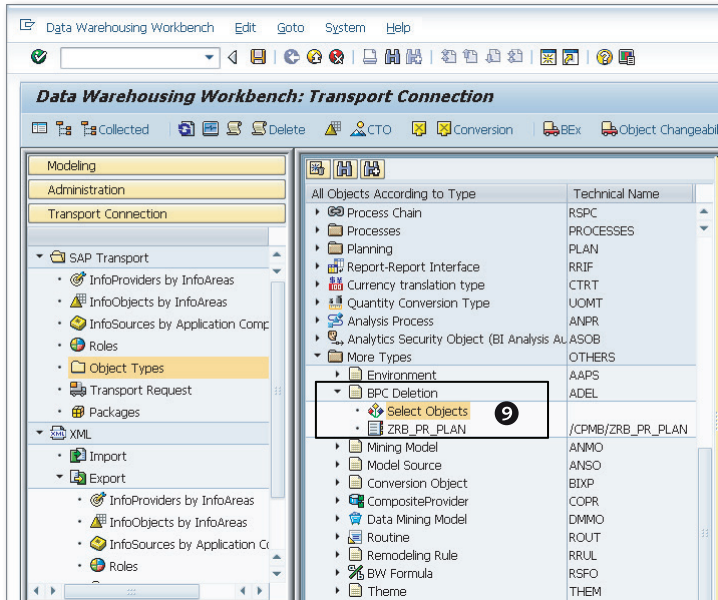

Figure 8.3 Transporting Objects in SAP BPC for NetWeaver—Part C
4. You may sometimes want to delete SAP BPC objects in target systems. Certain types of objects—MODEL, DIMENSION, DATA MANAGER PACKAGE, DATA MANAGER PACKAGE GROUP, and DATA MANAGER PACKAGE LINK—support deletion mode. To create a transport for deletion, click on MORE TYPES in the center pane, and double-click on SELECT OBJECTS under BPC DELETION (Figure 8.3, 9). Then select the objects you want to delete in the right pane.